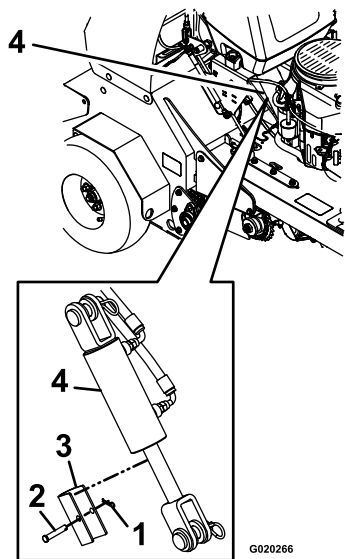

Figure 8
10. Remove and retain the hairpin, clevis pin, and cylinder stop as shown in Figure 8.